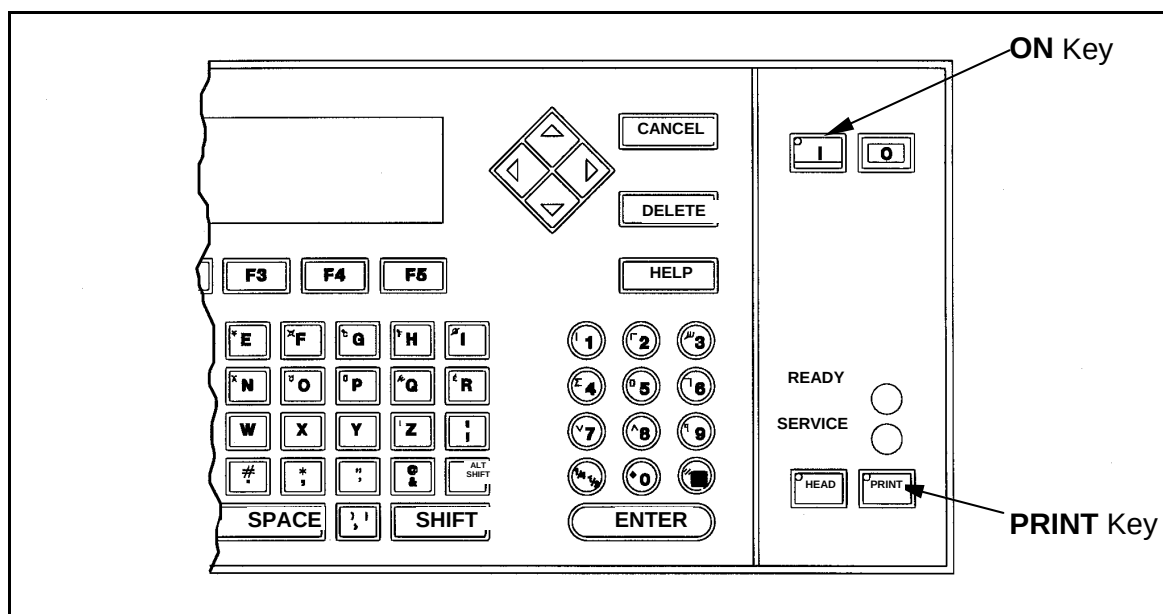

Figure 4-3. Location of ON and PRINT Keys
2. Press the **ON (I)** key on the keyboard to begin the 97-second start-up sequence. Refer to Figure 4-3 for the location of the **ON** key.